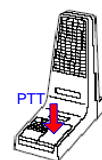

Figure 3-1
- When using the Hand-Held microphone, Hold it about 5cm from your mouth and press the Press-To-Talk (PTT) key, located on the side of the microphone (see Figure 3-1). Speak clearly into the microphone at your normal voice level, identifying yourself by your call sign, and the person you wish to contact. (For example: Base to Mobile 2.).